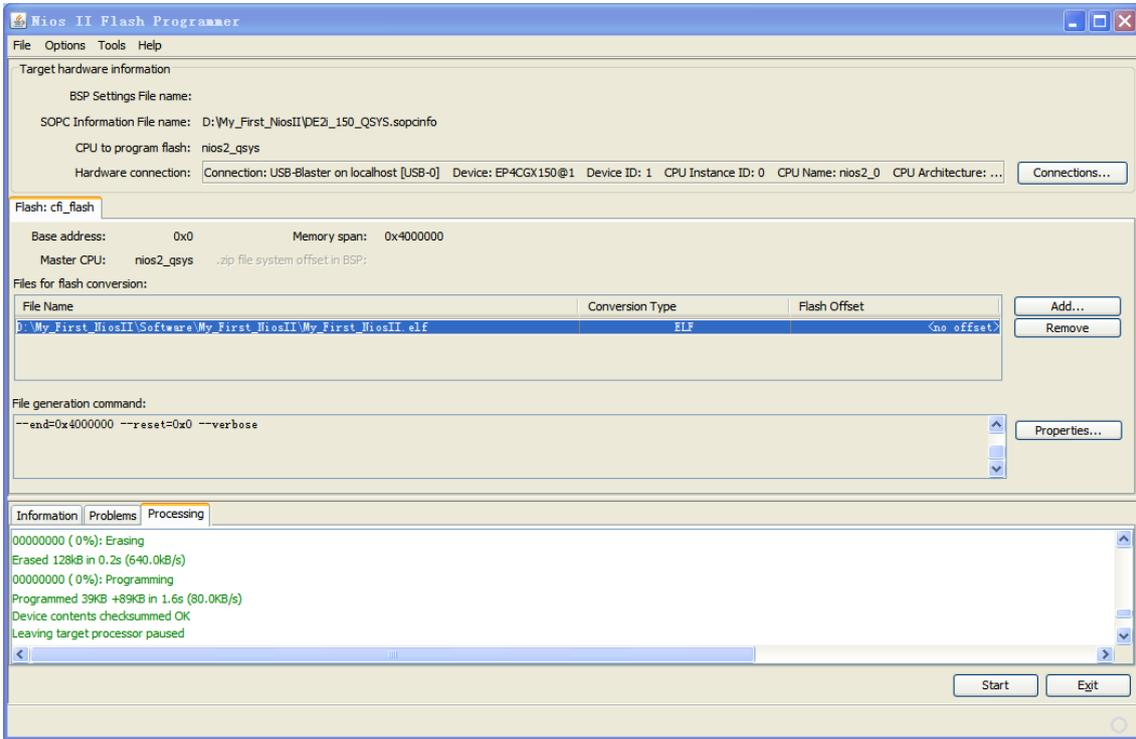

Figure 3-30 Program Flash complete!
7. When program flash completely, the console tab displays as shown in Figure 3-30.